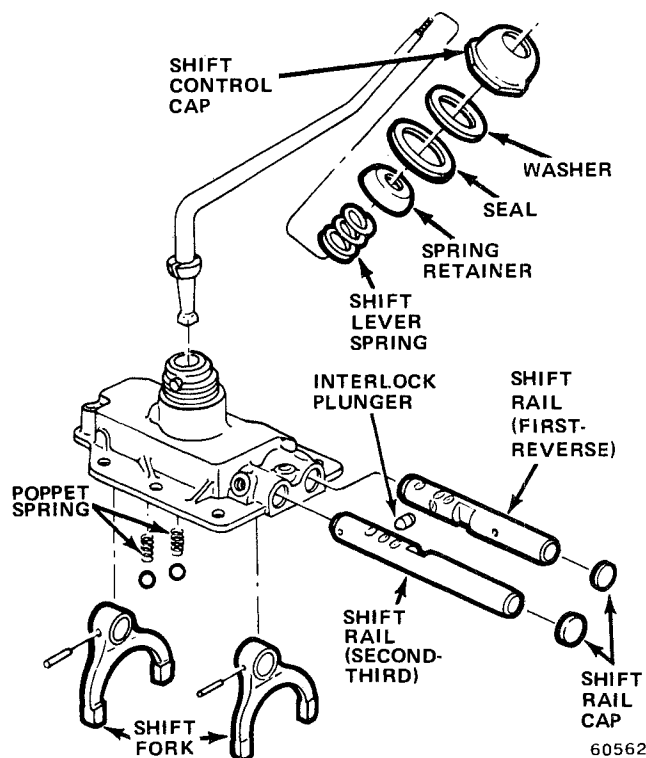

Fig. 2B-18 Shift Control Housing—CJ Models
(1) Remove backup lamp switch and TCS switch if equipped.
(2) Unthread shift control housing cap and remove cap, gasket, spring retainer, and shift lever spring as assembly (fig. 2B-18).